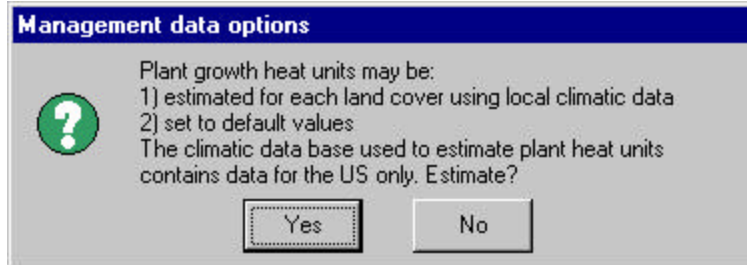

Figure 8.8
- e. When writing of the `.mgt` (management input) database begins, a prompt box appears with two options for defining plant growth heat units (Figure 8.8):